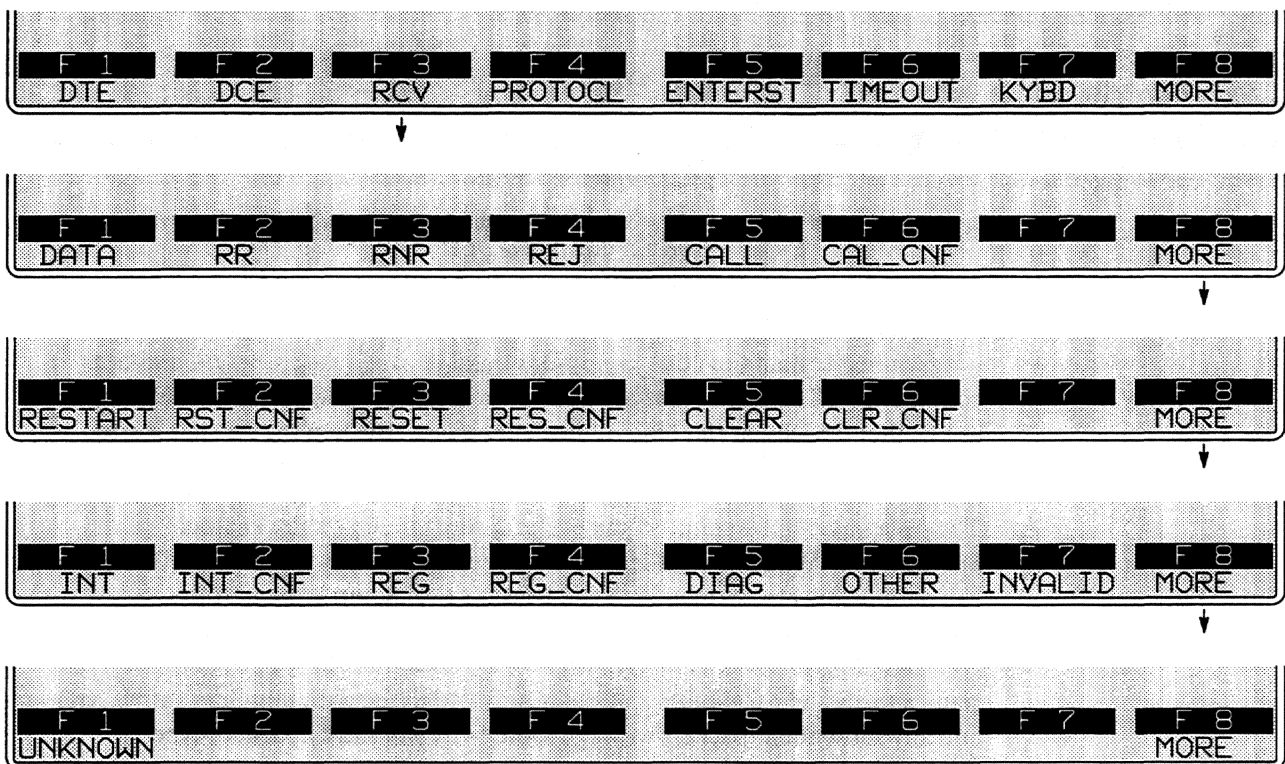

Figure 38-18 INVALID and UNKNOWN appear on the bottom two racks of RCV packet-type softkeys.
4. *Type invalid or unknown.* RCV conditions can detect packets that are invalid “types”—the packet header is missing, for example, or the LCN is 000 for anything other than a Restart, Registration, or Diagnostic packet. The Protocol Spreadsheet entry for this condition is RCV INVALID, and the softkey sequence is illustrated in Figure 38-18.
A packet may be valid in all respects but have a packet-type field that indicates a nonstandard packet type. Such a packet may be matched by a RCV UNKNOWN condition (Figure 38-18).